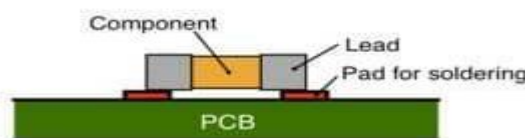

Figure 12.18 Surface Mounted Device (SMD)
- *SMD* stands for *Surface Mount Device*. That is the type of component that lies on top of the board. You solder them on the same side, as shown in Figure 12.18 SMD is the standard component type for modern electronics. They are smaller and take up less space.